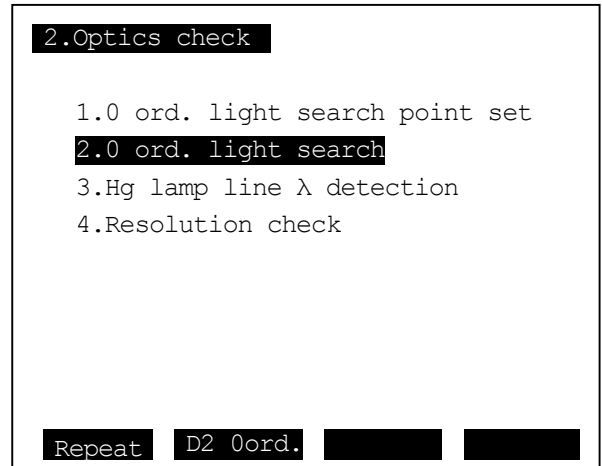

Fig. 8-11 Zero-order light search screen
- 1) Press the [3] key at the optic check screen to select “3. Hg lamp line  $\lambda$  detection” (see Fig. 8-11).